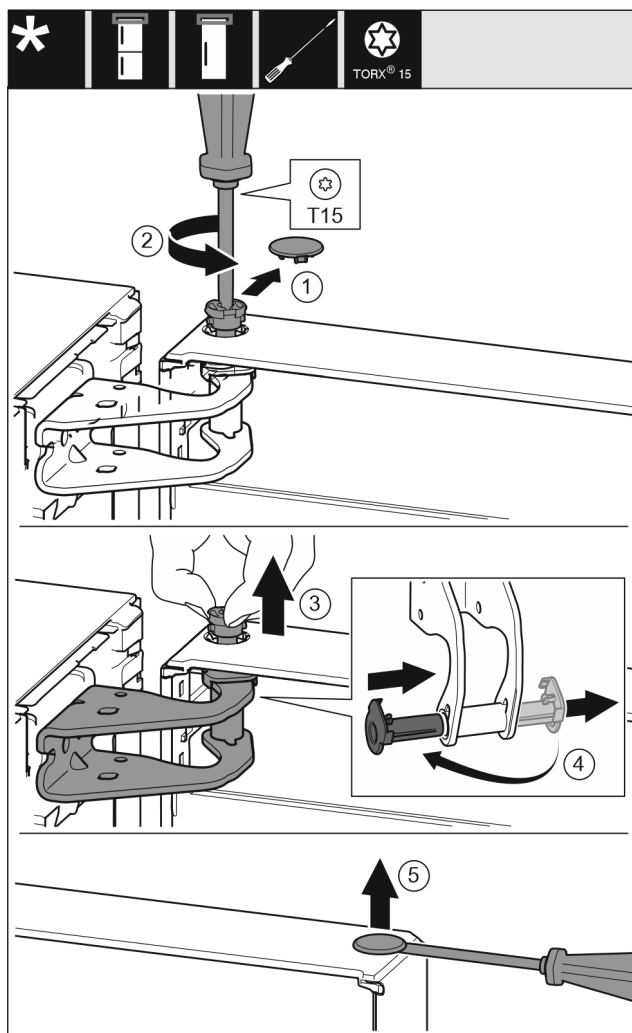

Fig. 7
- Carefully remove the protective cover. Fig. 7 (1)
- Undo the bolt a little with a T15 screwdriver. Fig. 7 (2)
- Hold the door and remove the bolts with your fingers. Fig. 7 (3)
- Pull the bearing bush out of the guide. Insert from the other side and latch into place. Fig. 7 (4)
- Carefully lift the plugs out of the door bearing bush with a slotted screwdriver and pull them out. Fig. 7 (5)